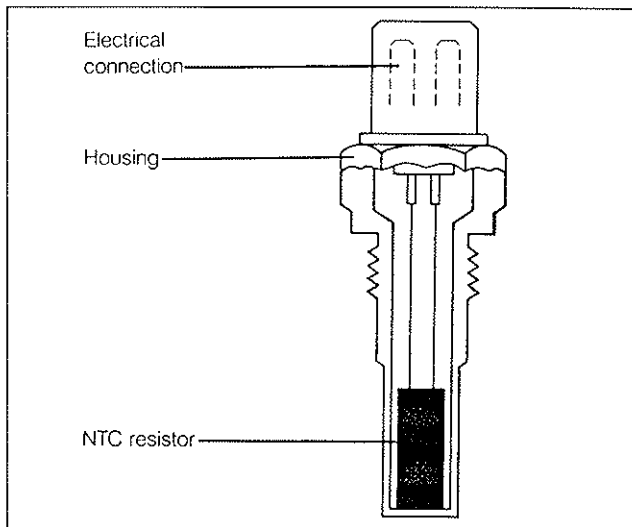
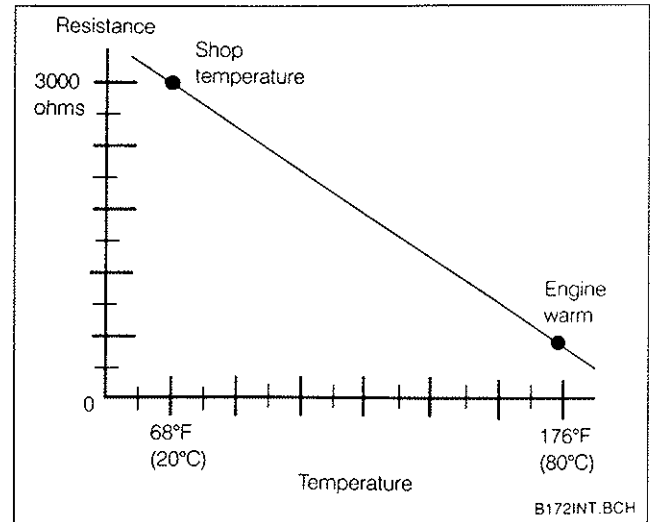

Fig. 2-30. Engine temperature sensor is a solid-state resistor, sometimes called a thermistor. NTC means Negative Temperature Coefficient.
Fig. 2-31. NTC resistance is lower when engine is warm
**Engine Temperature Sensor.** The most important sensor is the engine temperature sensor, shown in Fig. 2-30. It is a semi-conductor resistor, also known as a thermistor. You may find service instructions referring to it as NTC II. NTC stands for Negative Temperature Coefficient, meaning the sensor's resistance goes down as the temperature goes up. This is the opposite of most resistors; hence the term "negative." See Fig. 2-31.